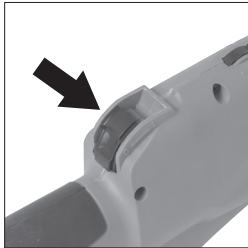

Fig. 9
- The 'ON/OFF' slide switch (**Fig. 9**) is a latching type. Slide it forward to start the motor. Push forward and down on the central section of the switch to latch it in the 'ON' position